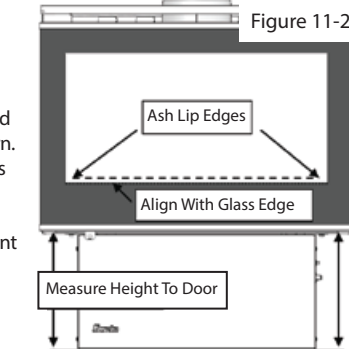

Figure 11-2
- Check the alignment of the door by measuring vertically from the underside of the door at each outer edge, to the base of the unit, as per figure 11-2. This measurement should be taken with the hinge bolts tightened and with the door hanging under its own weight.